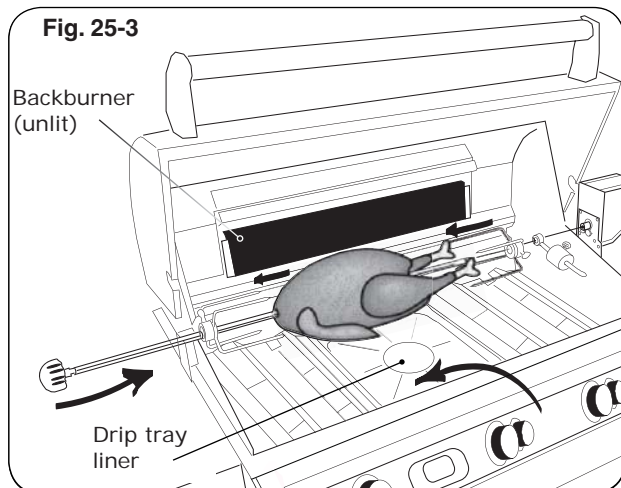

Fig. 25-3
4. Slide the left meat holder onto the rod (and tighten), the meat onto the rod and into the holder, followed by the right meat holder onto the rod and into the meat as shown in Fig. 25-3. Tighten the right meat holder. Be sure the meat is centered and balanced as well as possible.
11. To keep drippings off the burners and simplify cleanup, place Fire Magic® drip tray liners under the meat, if desired (Fig. 25-3).